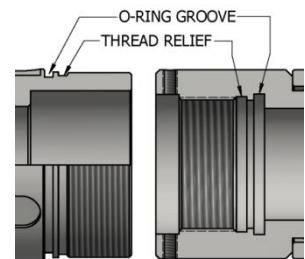

Fig. 2
**CAUTION:** To ensure tool operates properly, install o-rings in o-ring grooves, **NOT** thread reliefs unless stated otherwise (Fig. 2).